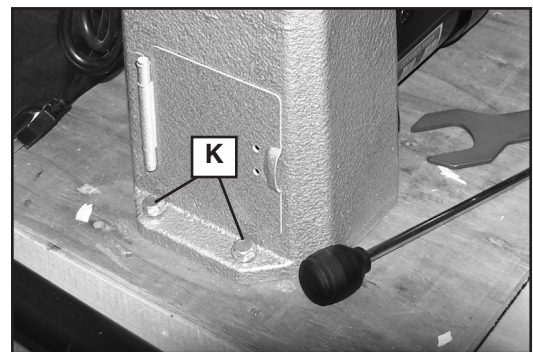

Fig. 1
Bolt lathe down using four 3/8" hex head screws (not supplied) at the four holes in lathe base, two of which are shown at (K) Fig. 1.